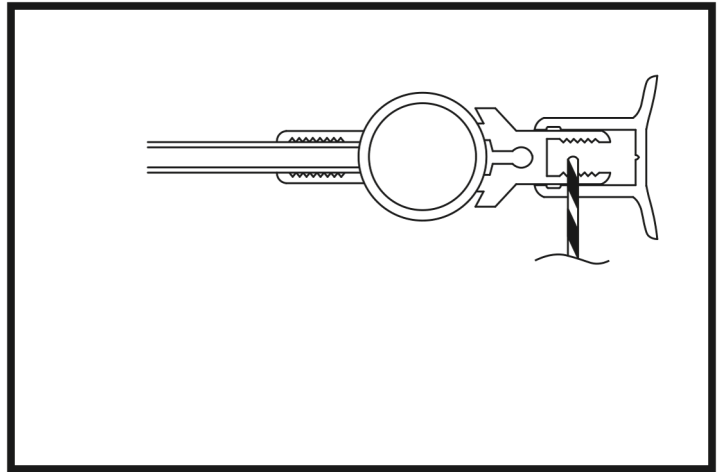

Figure 8
13. Begin by drilling the top hole, going through both the hinge profile and the hinge. Drill the holes carefully so that the drill only passes through one half of the profiles, not the entire product. (Figure 8)